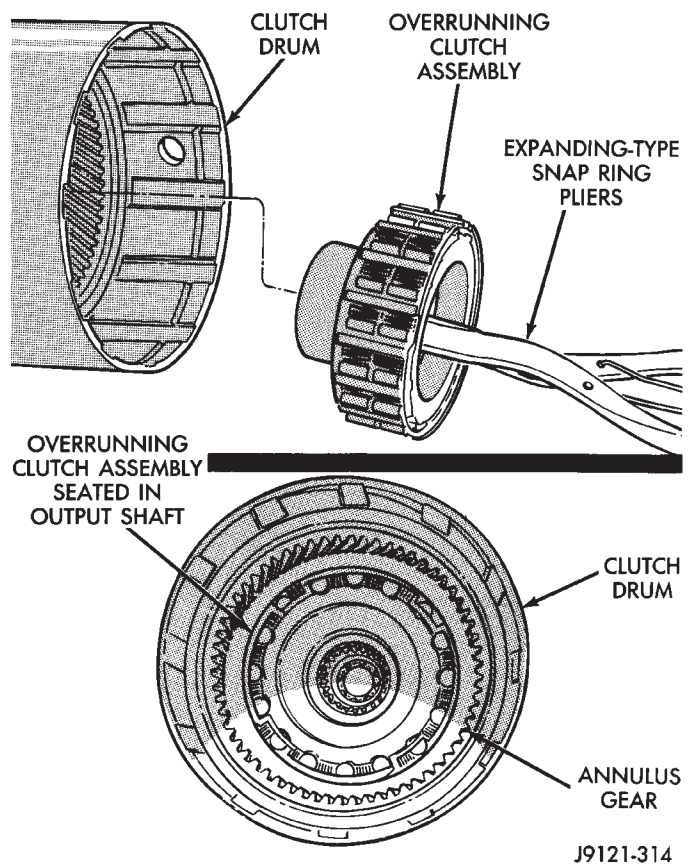

Fig. 42 Installing Overrunning Clutch
(12) Install overrunning clutch (Fig. 42). Insert snap ring pliers in hub splines. Expand pliers to grip hub. Then install assembly with counterclockwise, twisting motion.